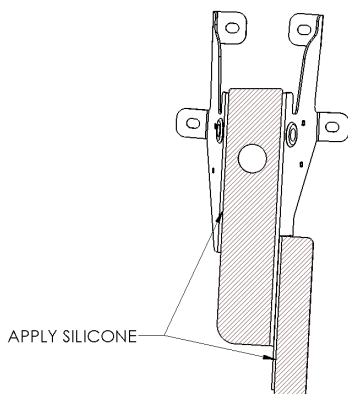

Figure 9
- a. Apply silicone to inner bracket (IBD/IBP) faces (see figure 9).
- a. Apply silicone to outer bracket faces (same as figure 9 from step 7a).
- d. Fasten outer visor sections D/ P to center visor section C using (3) $\frac{1}{4}$ -20 x $\frac{3}{4}$ " bolts with flat washers and locknuts.
- e. Fasten the outer visor halves D/P to the Ear Brackets EBD/EBP with (2) *polished* $\frac{1}{4}$ -20 carriage bolts, with washers, and locknuts at each side.